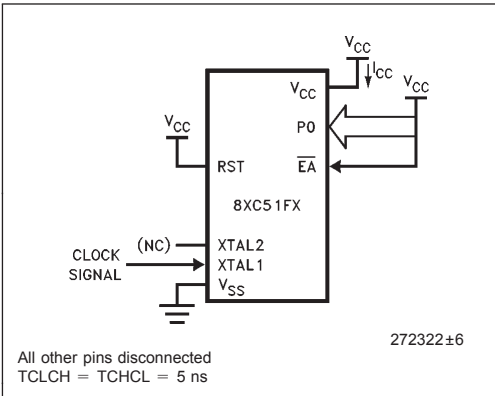

Figure 6. I_{CC} Test Condition, Active Mode
3. See Figures 6±9 for test conditions. Minimum V_{CC} for power down is 2V.